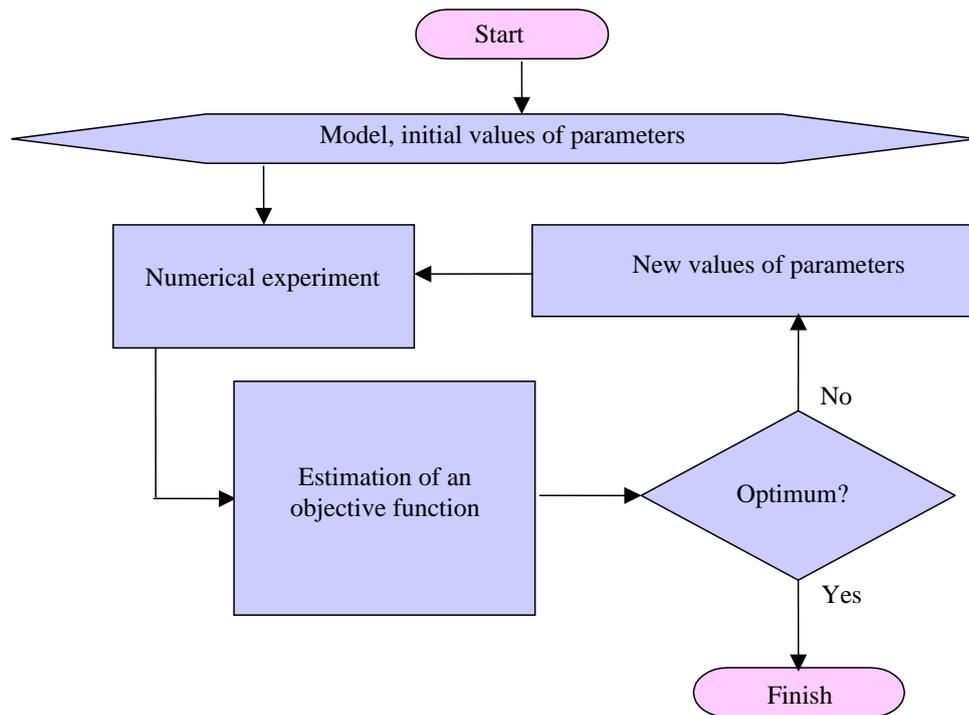

Figure 6.1. Optimization process
**UM Experiments** module is developed to help the researcher to analyze dynamical behavior of models and fulfill their parametrical optimization. Manual optimization according to Figure 6.1 is a quite time-consuming and laborious process where researcher has to control many different parameters of a model and settings that often leads to mistakes.